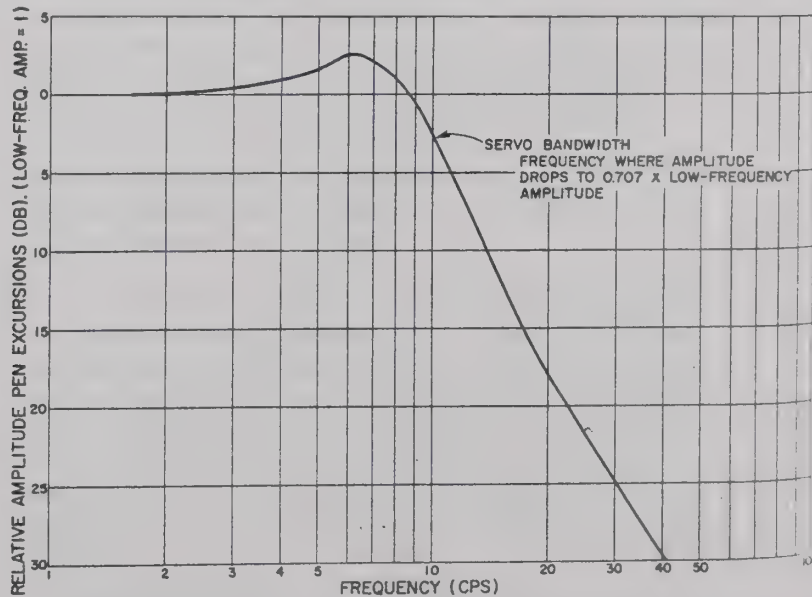

Figure 4.8. Servo Frequency Response.
4.10 SERVO BANDWIDTH. Servo bandwidth in a level recorder is defined for the motion of the pen, and is independent of the frequency response of the ac amplifier (20 cps to 200 kc). The servo acts as a low-pass filter, with the pen following level variations up to frequency cutoff. The cutoff frequency or servo bandwidth is the frequency at which the amplitude of the pen excursions drops to 0.707 times the amplitude at low frequencies (see Figure 4.8). The servo bandwidth is a